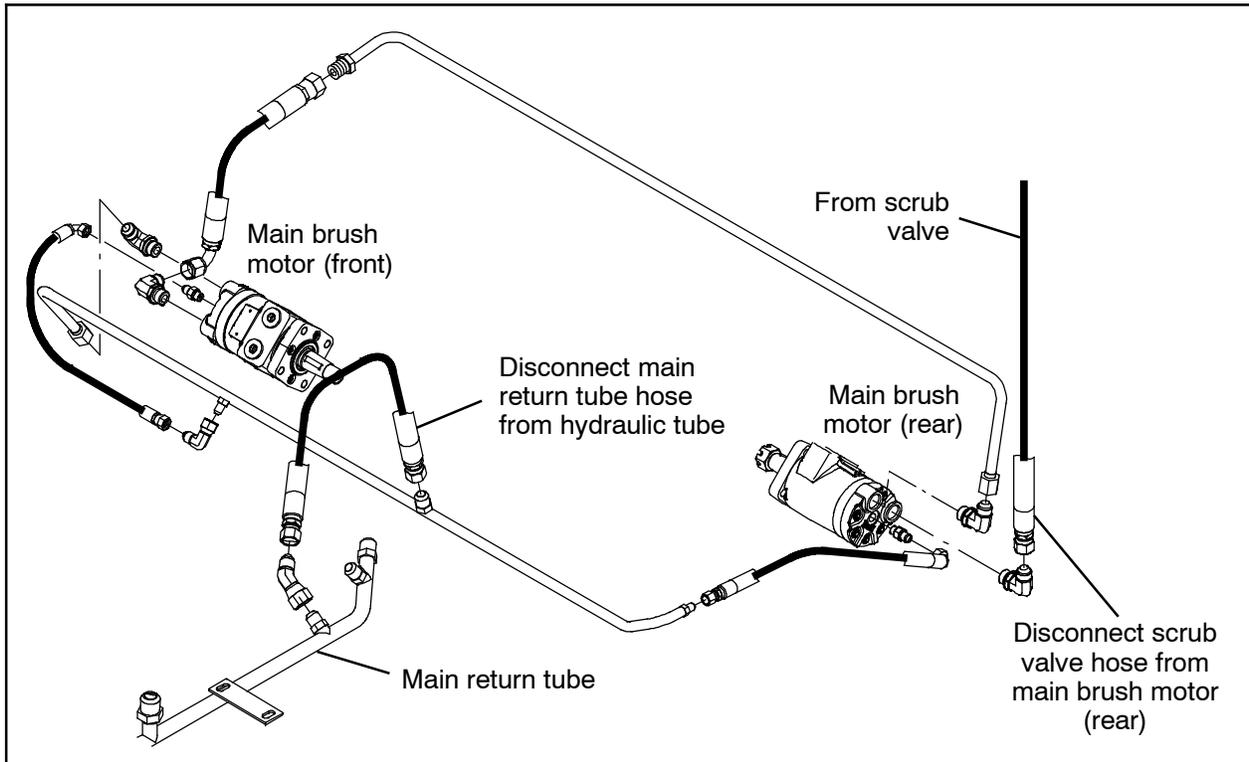

FIG. 1
1. Disconnect the main return tube hydraulic hose and scrub valve hydraulic hose from the main scrub head hydraulic lines. (Fig. 1)